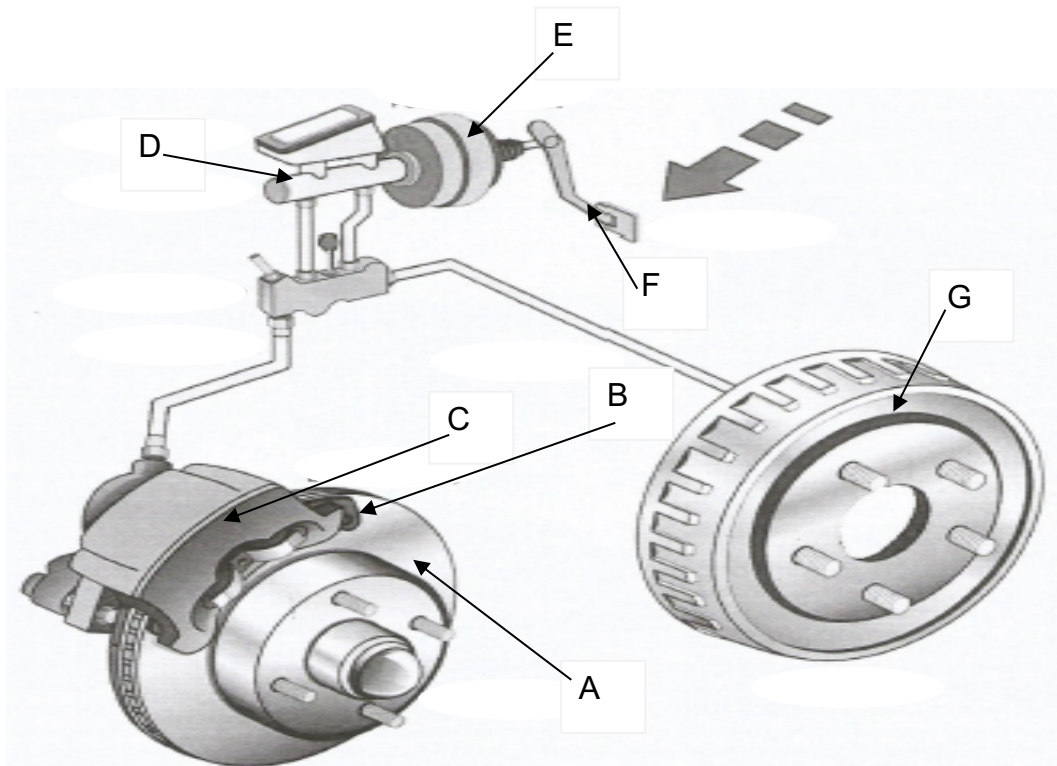

FIGURE 3
- (4 × 2) (8)
6.5 ✦ FIGURE 3 below shows a brake system component. Study the figure and answer the questions that follow: